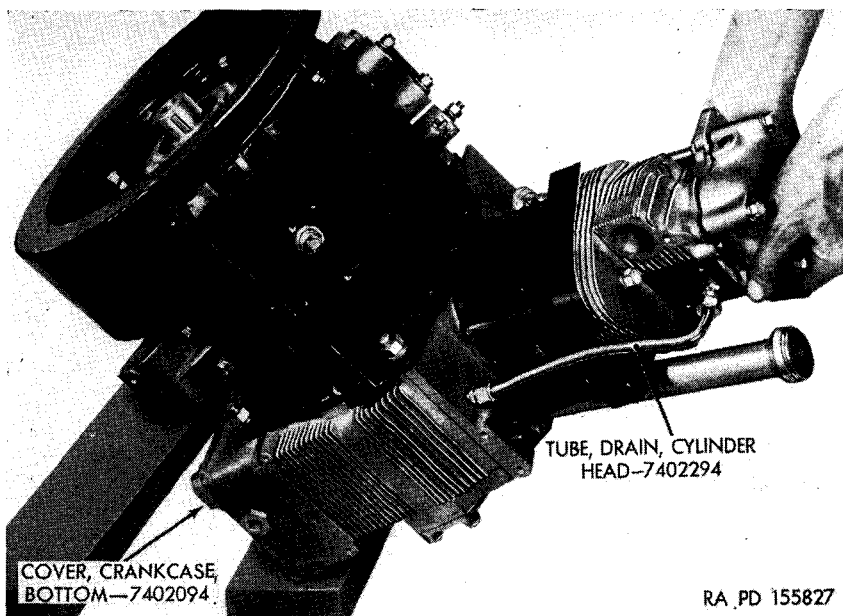

Figure 106. Raising engine and generator to upright position.
f. With crankcase bottom cover resting on wood blocks upend engine and generator (fig. 106), and secure baffle support to generator frame with three $\frac{3}{8}$ -24 x $\frac{5}{8}$ bolts and lock washers and three $\frac{1}{4}$ -20 x $\frac{1}{2}$ screws and washers. Engine and generator can now be mounted on a stand or dolly for further assembly operations.